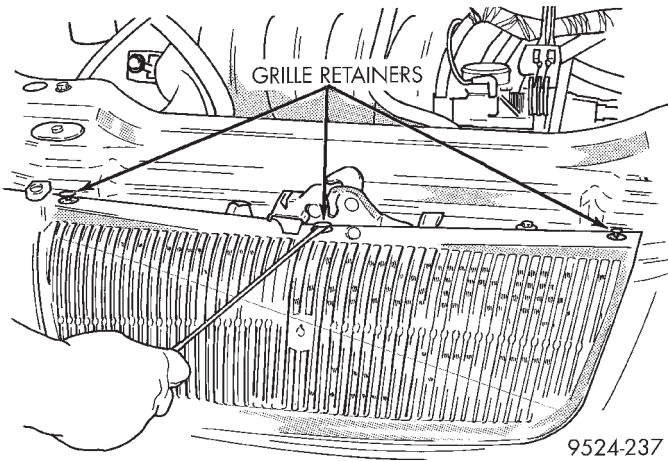

**Fig. 25 Grille Retainers**
(1) Remove refrigerant from the A/C system using a refrigerant recovery machine.
(2) Disconnect and cap A/C lines at the condenser.
(3) Remove grille retainers (Fig. 25). Refer to Group 23, Body for removal procedures.